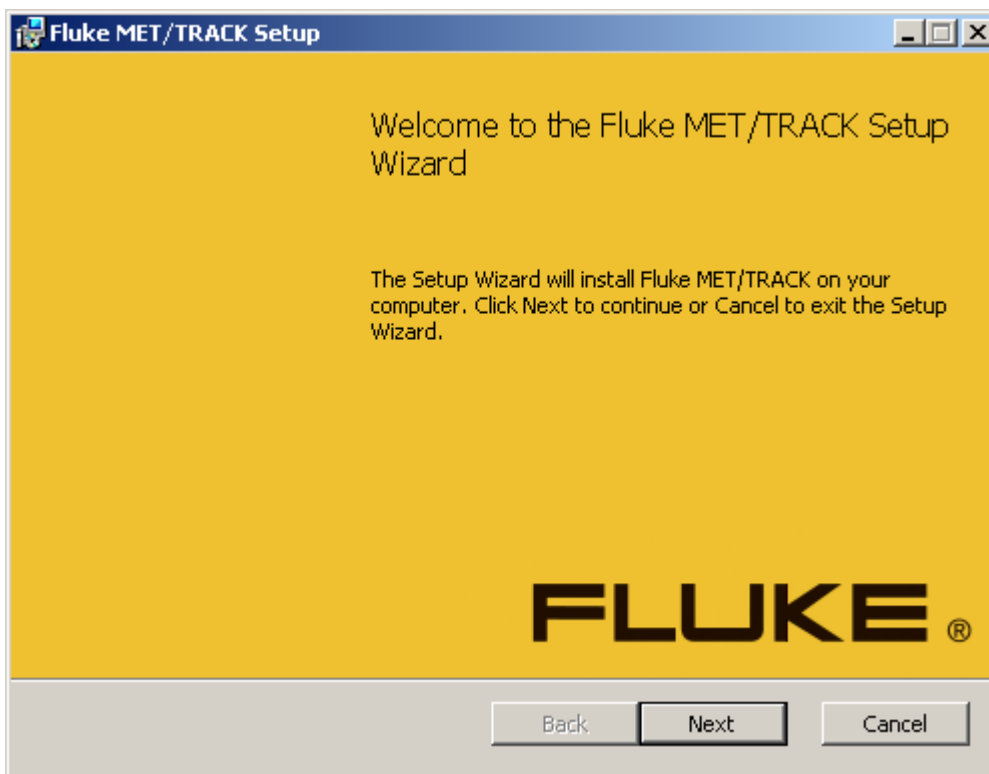

Figure 13. MET/TRACK Setup Wizard
1. When the **Welcome** dialog displays (see Figure 13), click **Next** to proceed.